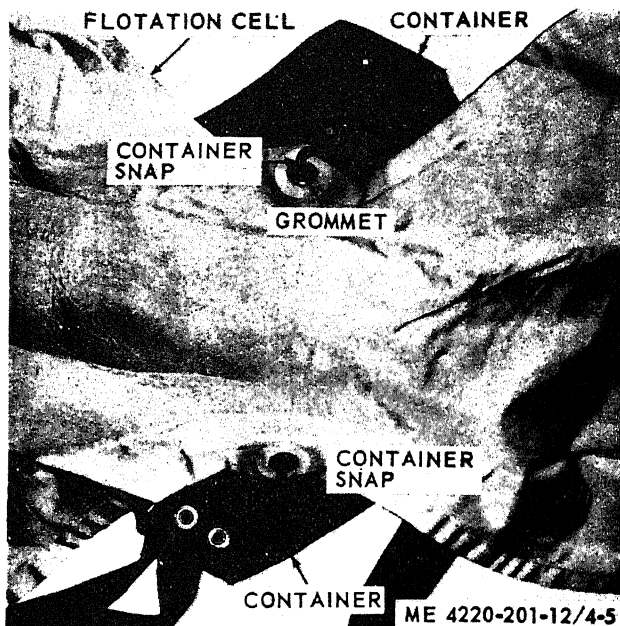

Figure 4-5. Flotation cell attached to container.
g. Hook the container snap through the flotation cell grommet (fig. 4-5).